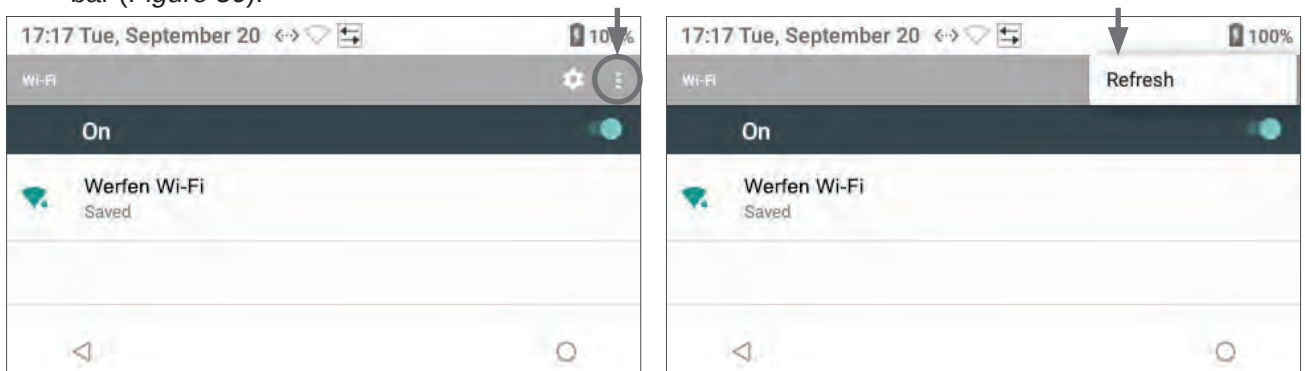

Figure 30: Refresh Search
- To refresh the search, select  and then select **Refresh** (Refresh) from the right side of title bar (Figure 30).
- If the network connection is established, **Saved** is displayed below the network name in the list of wireless networks (Figure 30).